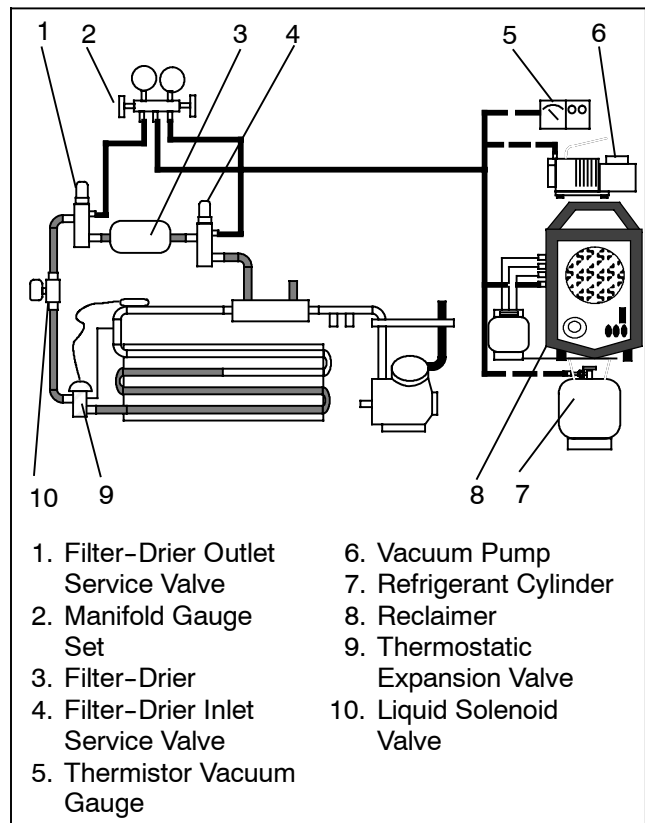
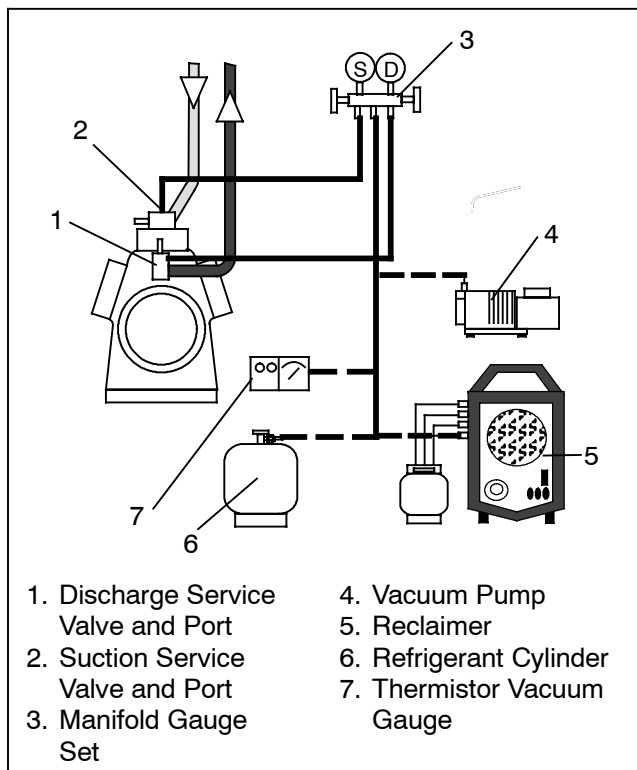
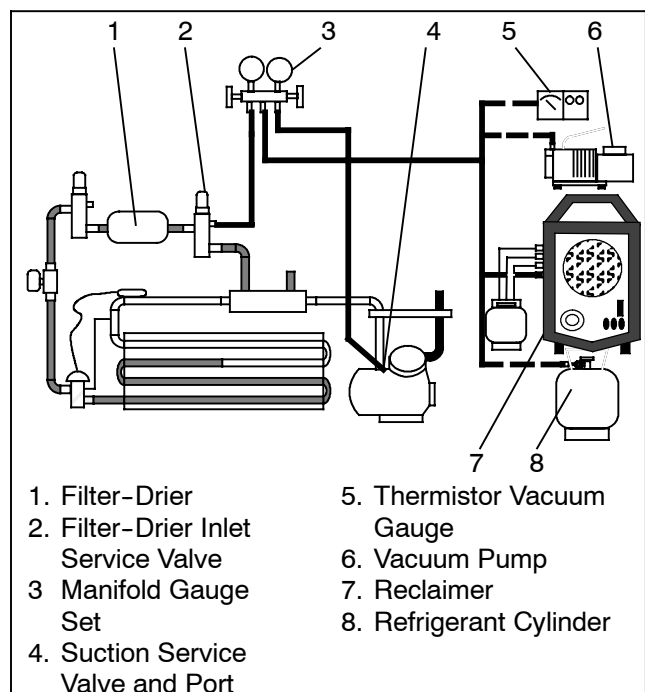

Figure 4-4. Low Side Pump Down Connections
Figure 4-5. Compressor Service Connections
Figure 4-6. System Charge Removal Connections
When the suction pressure hand valve is frontseated (turned all the way in), the suction (low) pressure can be read. When the discharge pressure hand valve is frontseated, discharge (high) pressure can be read. When both valves are open (turned counterclockwise), high pressure vapor will flow into the low side. When only the low pressure valve is open, the system can be charged or evacuated. To install a manifold gauge set, do the following (refer to Figure 4-4, Figure 4-5 or Figure 4-6 as applicable).
- Install manifold gauge set to the filter-drier inlet service valve. Refer to Figure 4-4.
- Attach a manifold gauge set as shown in Figure 4-5 and isolate the compressor by front seating the suction and discharge valves.
- a. Install manifold gauge set. Refer to Figure 4-5.
- a. Connect a manifold gauge set to the system as shown in Figure 4-6.
- b. The recommended method is connecting lines (3/8” OD copper tubing or refrigerant hoses designed for vacuum service) as shown in Figure 4-6.
- The recommended method is connecting lines (3/8" OD copper tubing or refrigerant hoses designed for vacuum service) as shown in Figure 4-6.